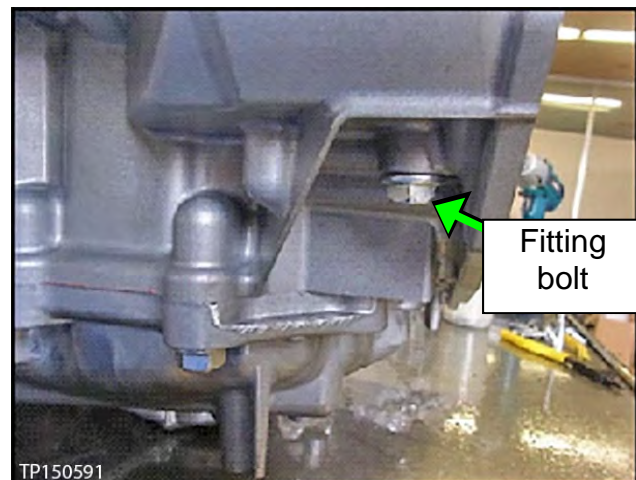

Figure 67
44. Install the fitting bolt finger tight (Figure 67).